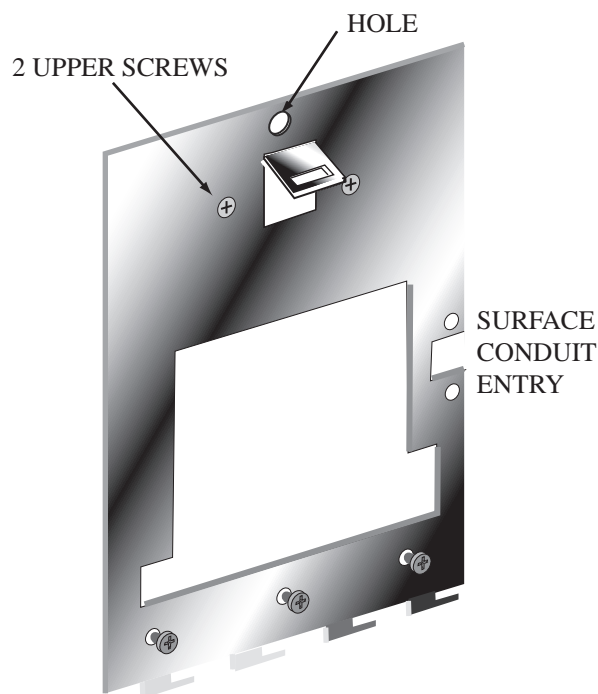

Figure 3-1: Wall Plate
1. Remove the wall plate from the packing carton. Refer to Figure 3-1 for all wall plate references in the following section.
- Up to 32 HandReaders can be linked together on a 2-wire RS-485 or 4-wire RS-422 network (see Figure 3-1).